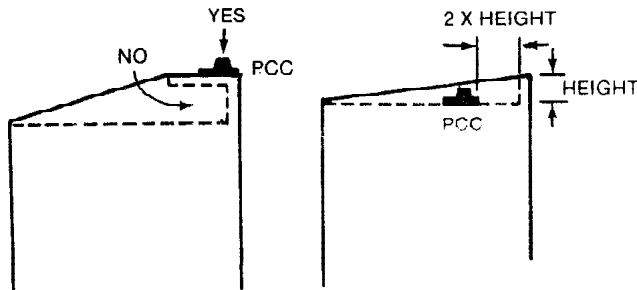

Fig. 14
- Place a PCC on the lectern shelf top, outside of any cavities (Fig. 14). If the lectern has a raised edge, place the PCC at least twice as far from the edge as the edge is high. Set the BASS TILT switch to FLAT or BOOST, according to your preference.